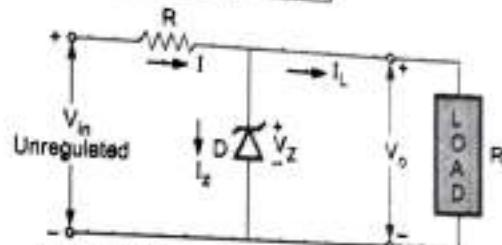

Fig. Q.38.2 Zener diode as a shunt regulator
- A shunt voltage regulator using zener diode is shown in the Fig. Q.38.2.
- From the Fig. Q.38.2 we can write,